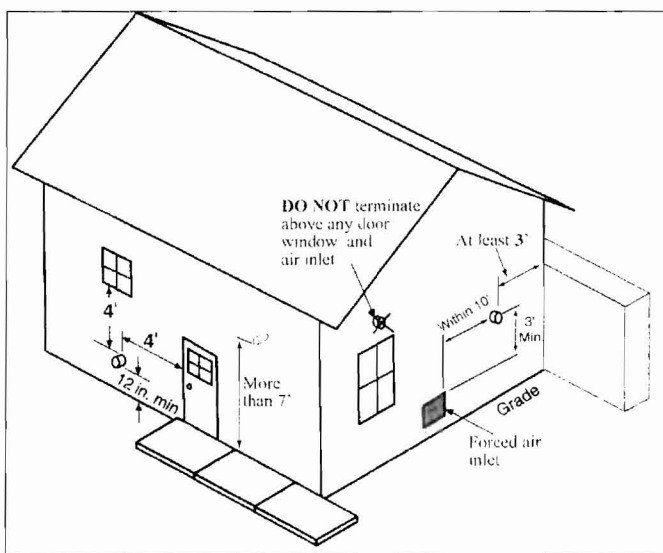

Fig. 24: Termination Clearances of Category IV System
5. The vent termination must also maintain the following clearances; as shown in Fig.24.